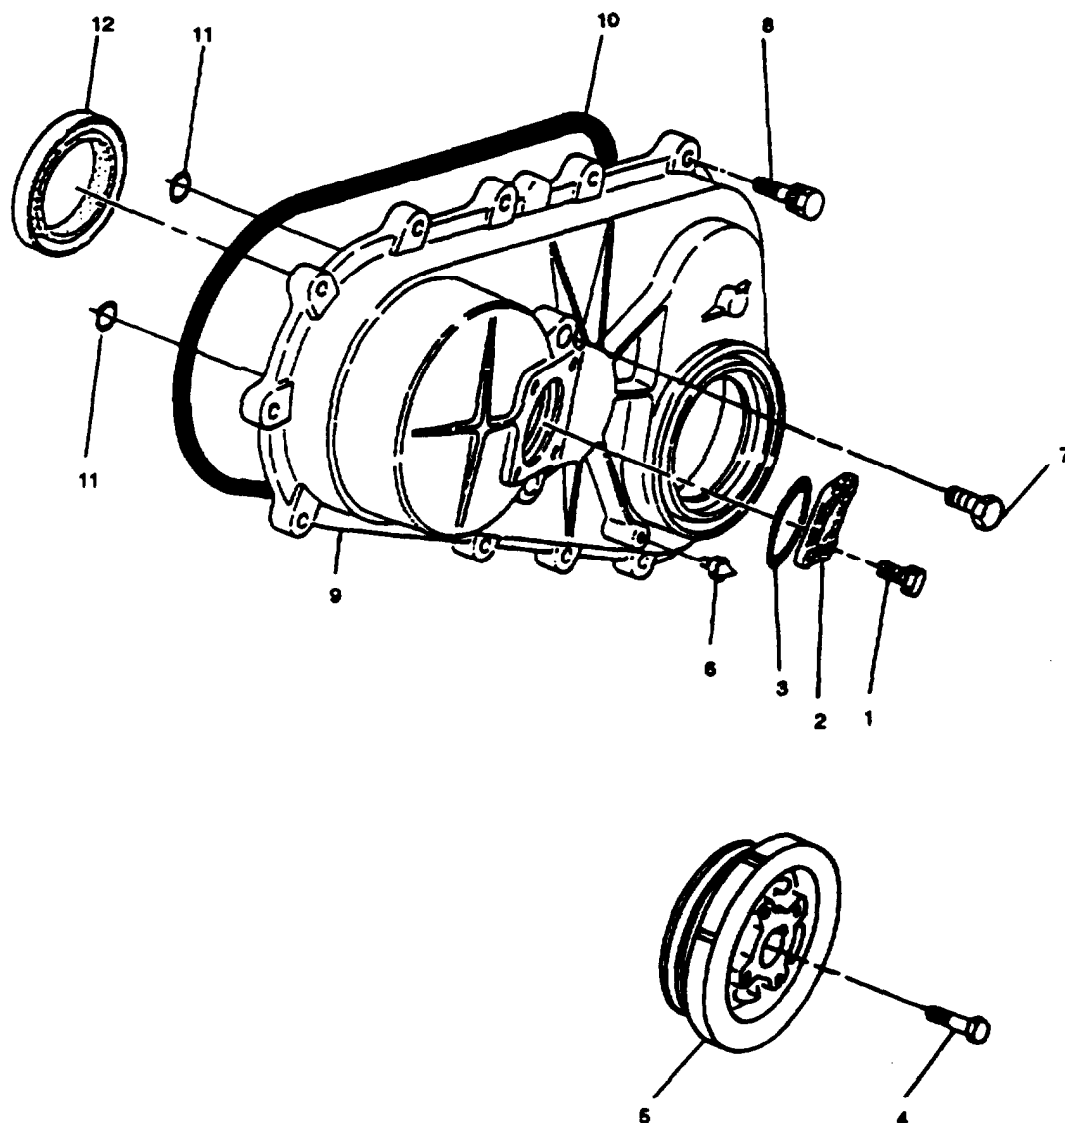
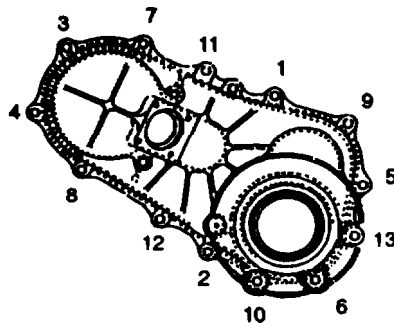

FIGURE 3-50. Front Gear Cover
FIGURE 3-51. Front Gear Cover Screw lightening Sequence
- c. Remove four screws (1, FIGURE 3-50) cover (2) and preformed packing (3). Ensure "ZZ" is still visible.
- e. Remove bolt (4, FIGURE 3-50) securing crankshaft pulley (5) to crankshaft and remove pulley.
- f. Remove two screws (7).
- g. Support front gear cover (9) and remove thirteen screws (8) attaching cover to engine block; remove cover (9) and preformed pecking (10). Discard preformed packing.
- h. Remove dial pointer (6).
- i. Remove and discard two preformed packings (11) from front gear cover.
- a. Inspect crankshaft front oil seal (12, FIGURE 3-50) for excessive wear, damage, or signs of leakage.
- a. Install new crankshaft front oil seal (12, FIGURE 3-50) in front gear cover (9) using oil seal installer (5-6522-9613-0)
- b. Install two new preformed packings (11) in front gear cover.
- c. Install dial pointer (6).
- d. Insert new preformed packing (10) firmly into groove on front gear cover.
- e. Position front gear cover (9) on engine block and secure with thirteen screws (8). Tighten each bolt to 168 ftlbs (19.9 Nm) in the sequence shown in FIGURE 3-51.
- f. Install two screws (7).
- g. Install crankshaft pulley (5, FIGURE 3-50) on crankshaft, aligning mark on pulley with pointer and secure with bolt (4). Tighten bolt to 137 ft-lbs (166.0 Nm).